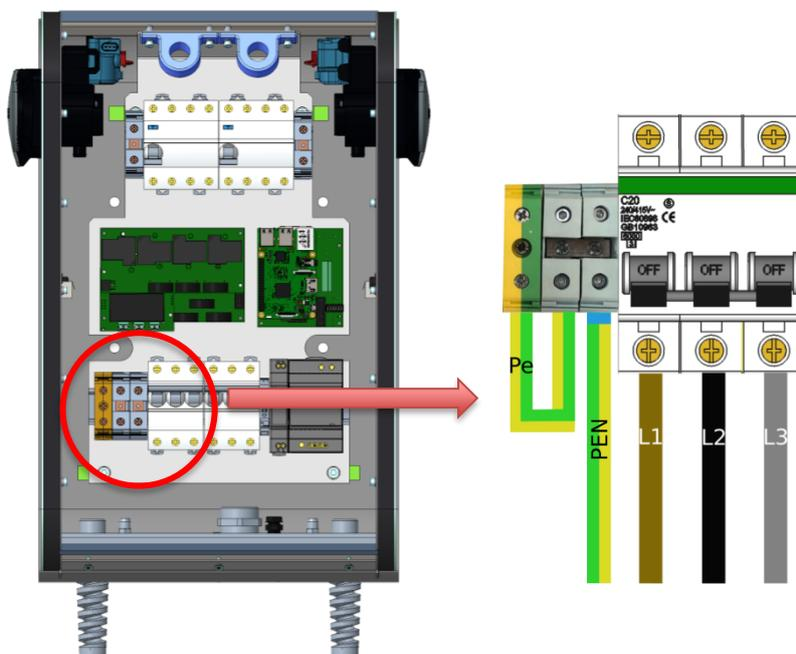

Fig. 11: Connection of lead-in wire in TN-C network
- Connect the lead-in wires in the TN-C network, as shown below in Fig. 11